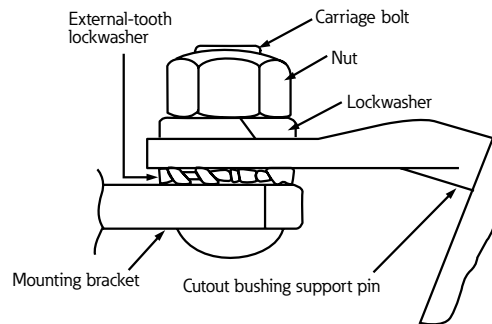

Figure 4. Proper cutout mounting.
2. Mount the cutout on the mounting bracket making sure the external-tooth lockwasher is placed between the mounting bracket and the cutout disconnect switch bushing support pin (see Figure 4).